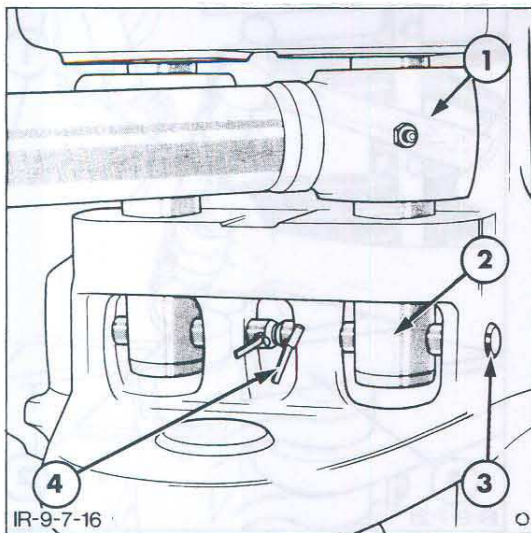

Figure 16
4. Remove the cylinder rod pin by removing the cotter pin securing the pin retainers and driving out the retainer. It may be necessary to remove both pin retainers in order to remove the one required, Figure 16. Drive out the rod end pivot pin.